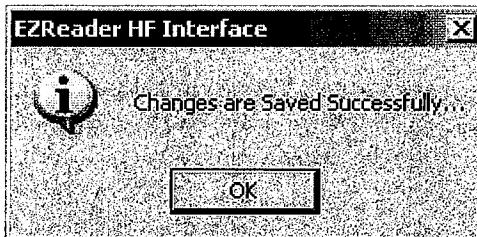

Figure 13
- 9.8.4 You should get a acknowledgement that "Changes are Saved Successfully" as in Figure 13